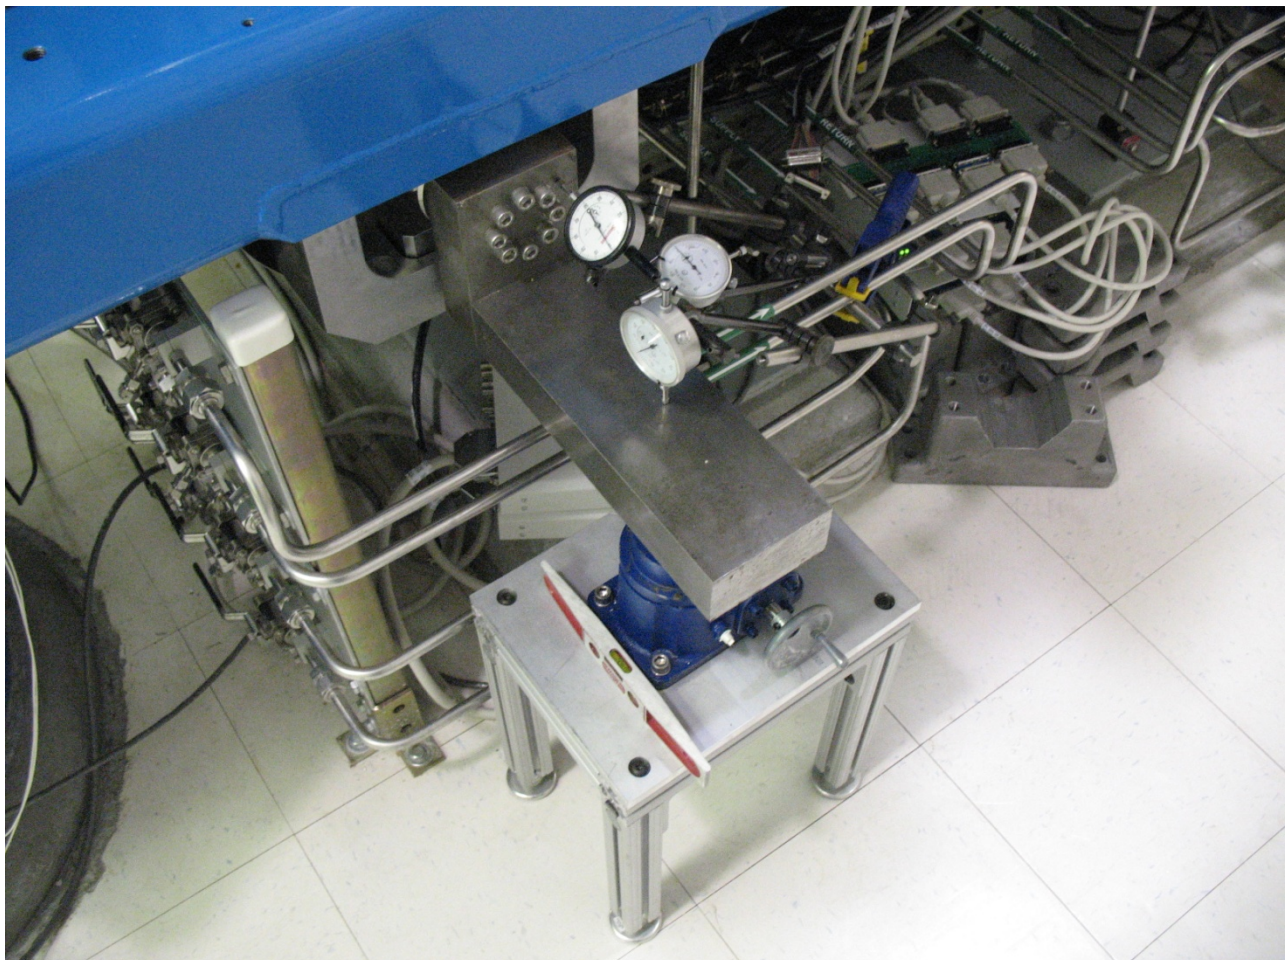

Figure 3
5.3 Raise the jack screws till they make contact with D1100077, monitor the dial indicators once the dial indicators move then you have made contact, preloading the Support Tube (D972610). Do this in all 4 corners of the chamber. Figure 3.